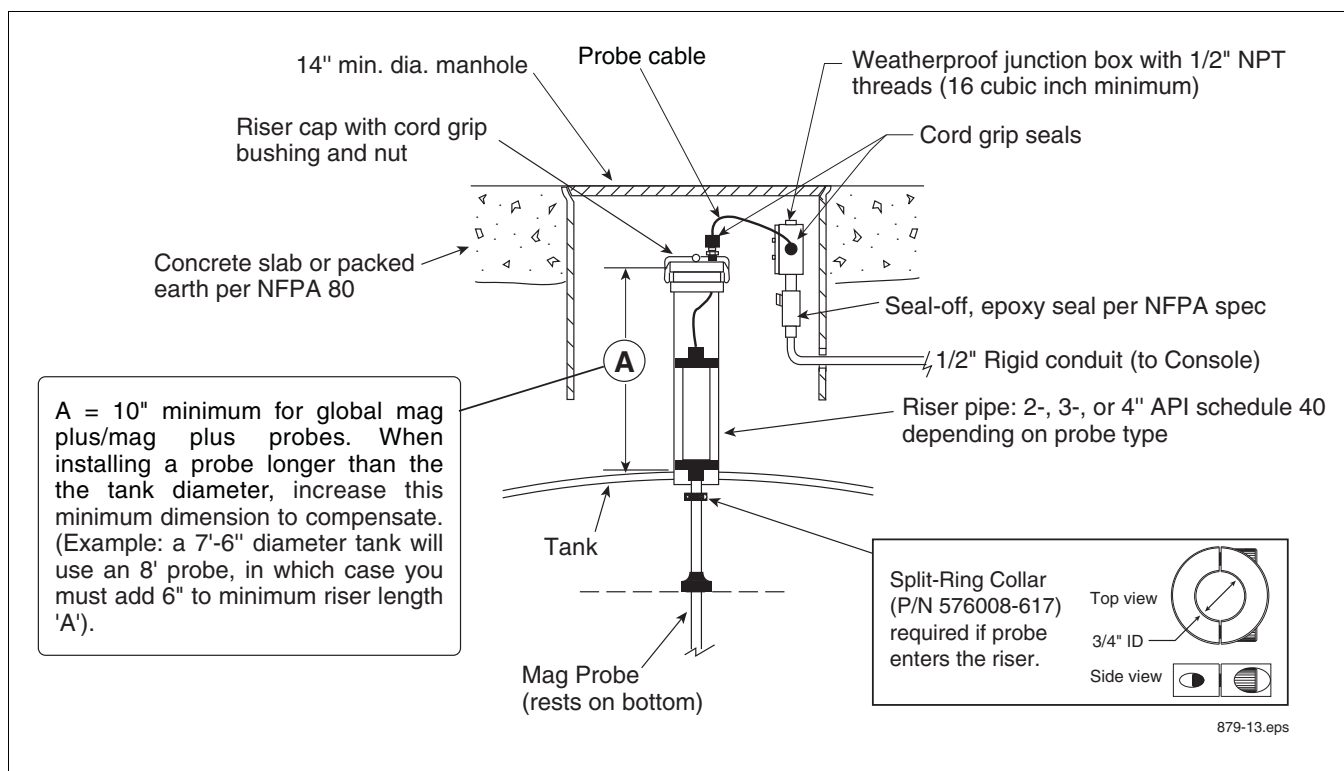
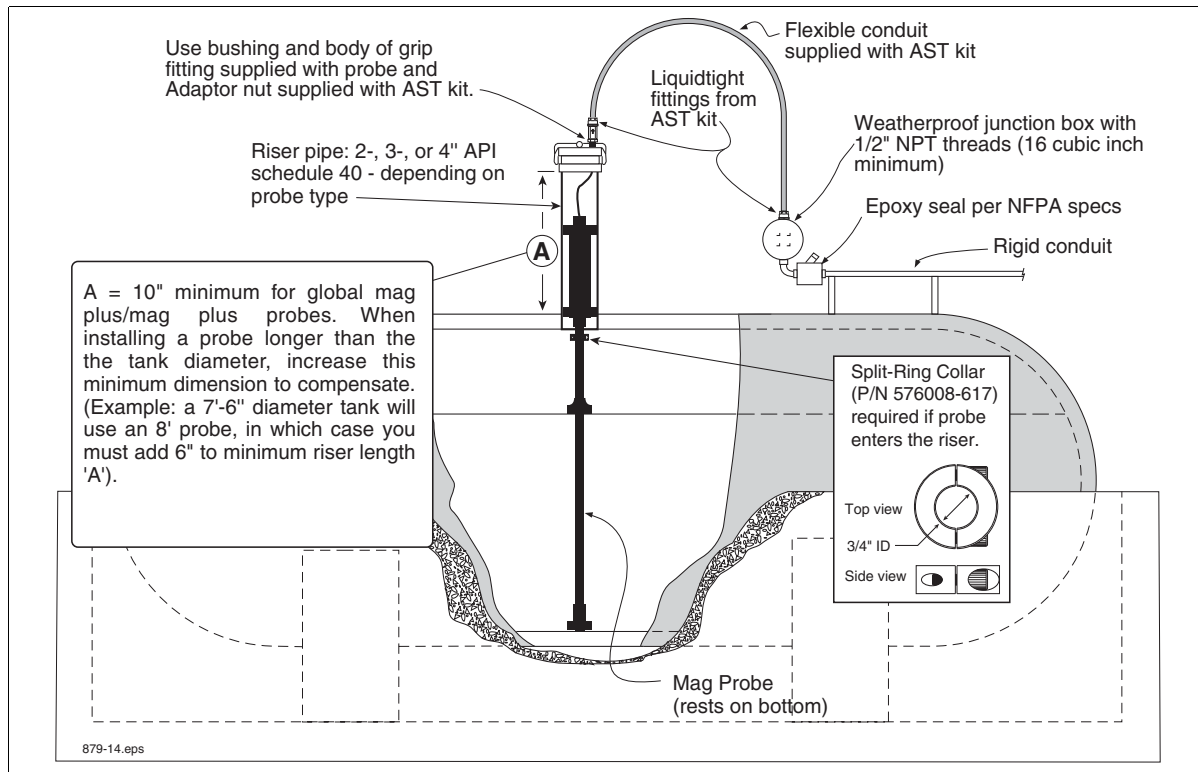

Figure 12. UST probe installation - dedicated riser
Figure 13. AST probe installation - dedicated riser
4. Gently slide the float(s) to the bottom of the probe shaft before raising the probe. Carefully lower the probe into the riser pipe until the boot rests on the bottom of the tank [See Figure 12 for UST installation or Figure 13 for AST installation].